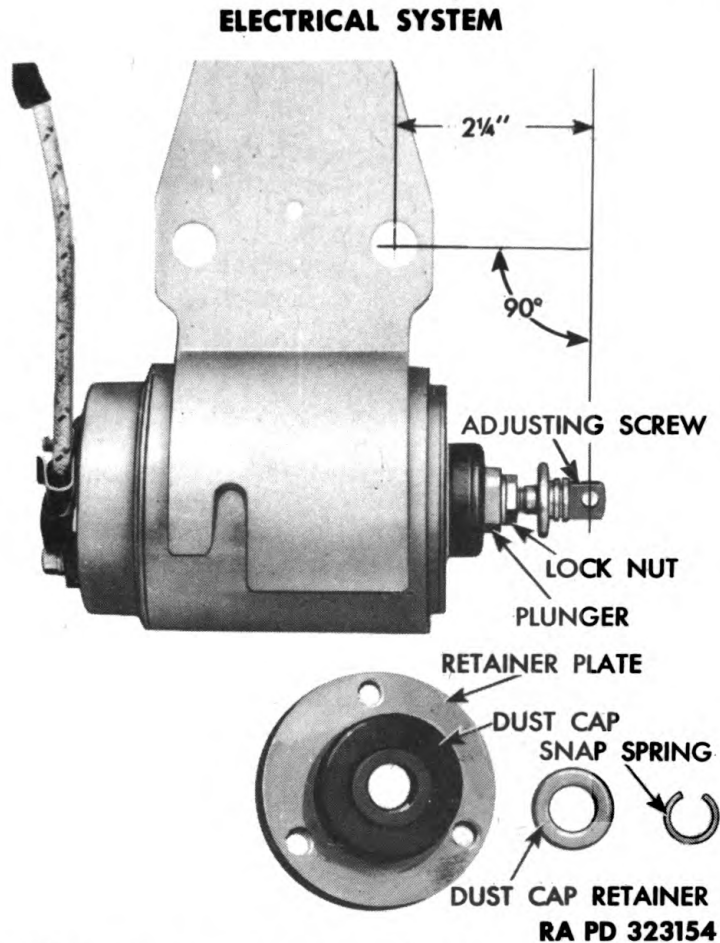

Figure 155 – Solenoid Plunger Adjusting Screw Setting
a. **Plunger Adjusting Screw (fig. 155).** Remove snap spring, dust cap retainer, dust cap, and retainer plate. Pull plunger out of housing as far as possible until it is against stop. The distance from the center of the pin hole in the adjusting screw to the center of the first mounting hole in the bracket should be $2\frac{1}{4}$ inches (fig. 155) when measured parallel with the axis of the plunger. Turn adjusting screw in plunger to get this measurement, then tighten lock nut.